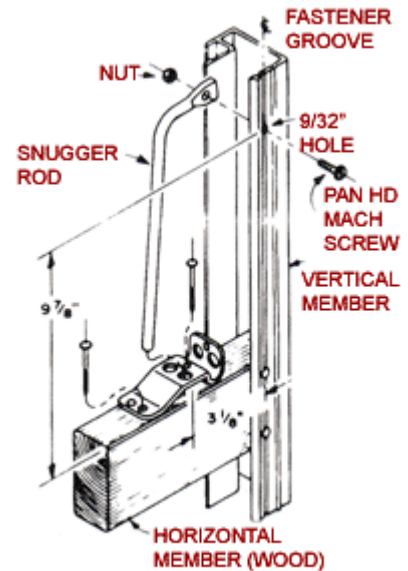

FIGURE 17
- 1.) Select a horizontal door member that is at a convenient height and drill one (1) $9/32$ " diameter hole in the vertical door member.
2.) Refer to **Fig. 17** for hole location.
6.) Secure the opposite end to vertical member using (1) 1/4" fastener and nut as shown **Fig. 17**.